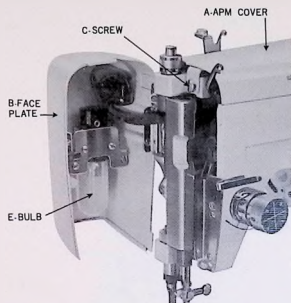

Fig. 32
To reach the parts inside the arm, remove the complete arm cover (A) Fig. 32 by opening face plate (B) and removing screw (C) and the screw on top of the arm cover at
The sewing light is mounted inside the hinged face plate. To replace the bulb, open the face plate (B) Fig. 32. This will allow for easy removal of bulb (E) and replacement in its screw base socket.